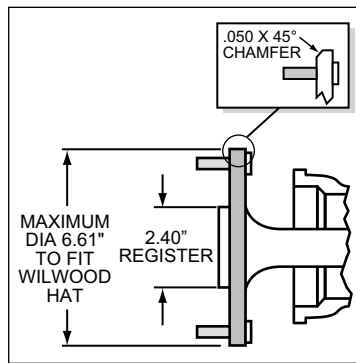

Figure 3. Axle Flange Maximum Dimension
- Axle center register diameter is 2.40", Figure 3. This kit uses Wilwood's removable center register adapters. Rotors can either be centered on the axle register, i.e. *register-centric* or centered on the wheel studs, i.e. *stud-centric*. Due to variations in wheel stud final diameters, *register-centric* centering can be a more accurate method of centering the rotor to the axle. Wilwood offers various diameter adapters for purchase in addition to the ones supplied in this kit, see Table 1.
- Maximum axle flange diameter must be no larger than 6.61" w/.050" x 45° chamfer, Figure 3.